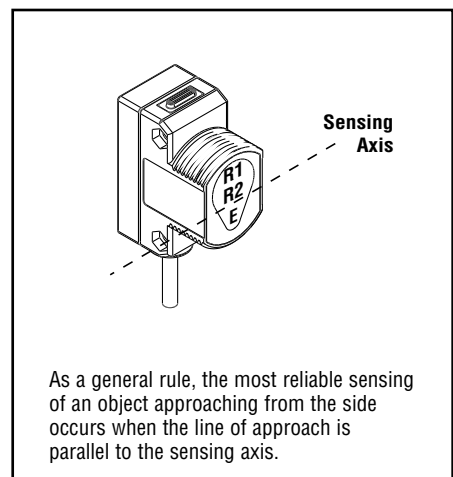

Figure 2. Fixed-field sensing axis
In operation, the QS30FF compares the reflections of its emitted light beam (E) from an object back to the sensor's two differently-aimed detectors R1 and R2 (see Figure 2). If the near detector (R1) light signal is stronger than the far detector (R2) light signal (see object A, closer than the cutoff distance), the sensor responds to the object. If the far detector (R2) light signal is stronger than the near detector (R1) light signal (see object B, object beyond the cutoff distance), the sensor ignores the object.
In the drawings and discussion on these pages, the letters E, R1, and R2 identify how the sensor's three optical elements (Emitter "E", Near Detector "R1", and Far Detector "R2") line up across the face of the sensor. The location of these elements defines the sensing axis (see Figure 2). The sensing axis becomes important in certain situations, such as those illustrated in Figures 5 and 6.